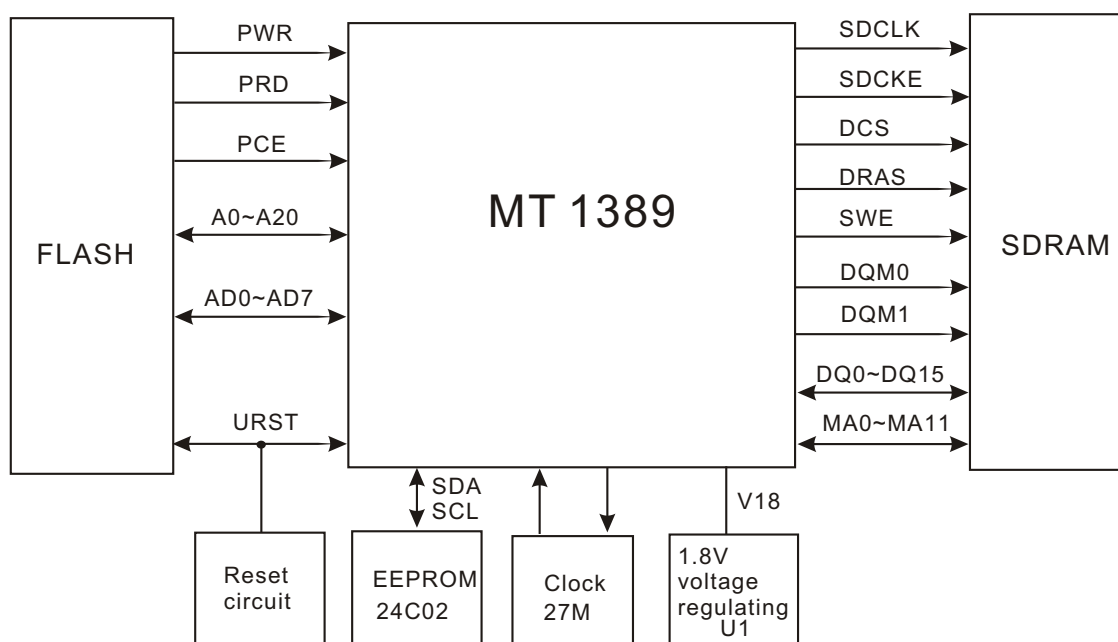

Figure 3.2.8.1 Decode circuit block diagram
1. Decode circuit block diagram is shown as in the following figure 3.2.8.1: